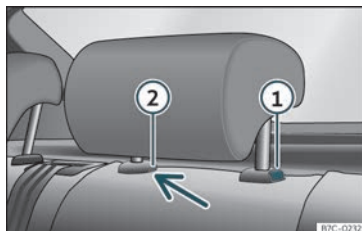

Fig. 103 Rear headrest: removal.
- Press button >>> Fig. 103 ①, while simultaneously pressing on the security hole ② with a flat screwdriver a maximum of 5 mm wide, and remove the headrest.